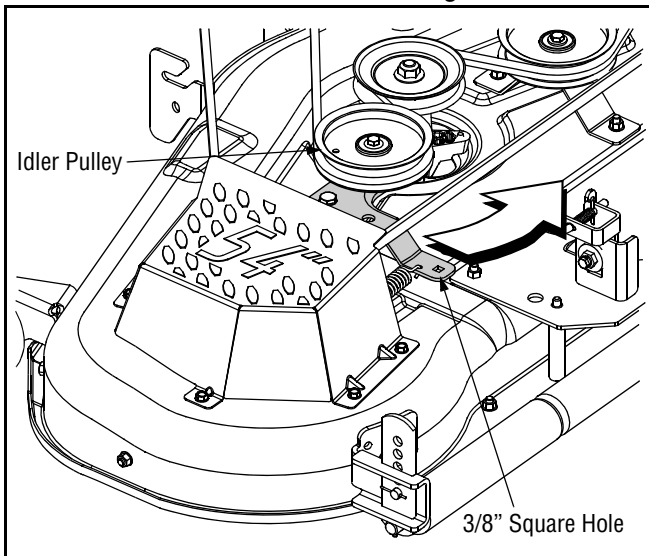

Figure 17
- Insert a 3/8"-drive ratchet wrench set to *loosen* into the square hole found in the idler bracket on the left side of the deck's surface. See Figure 17.